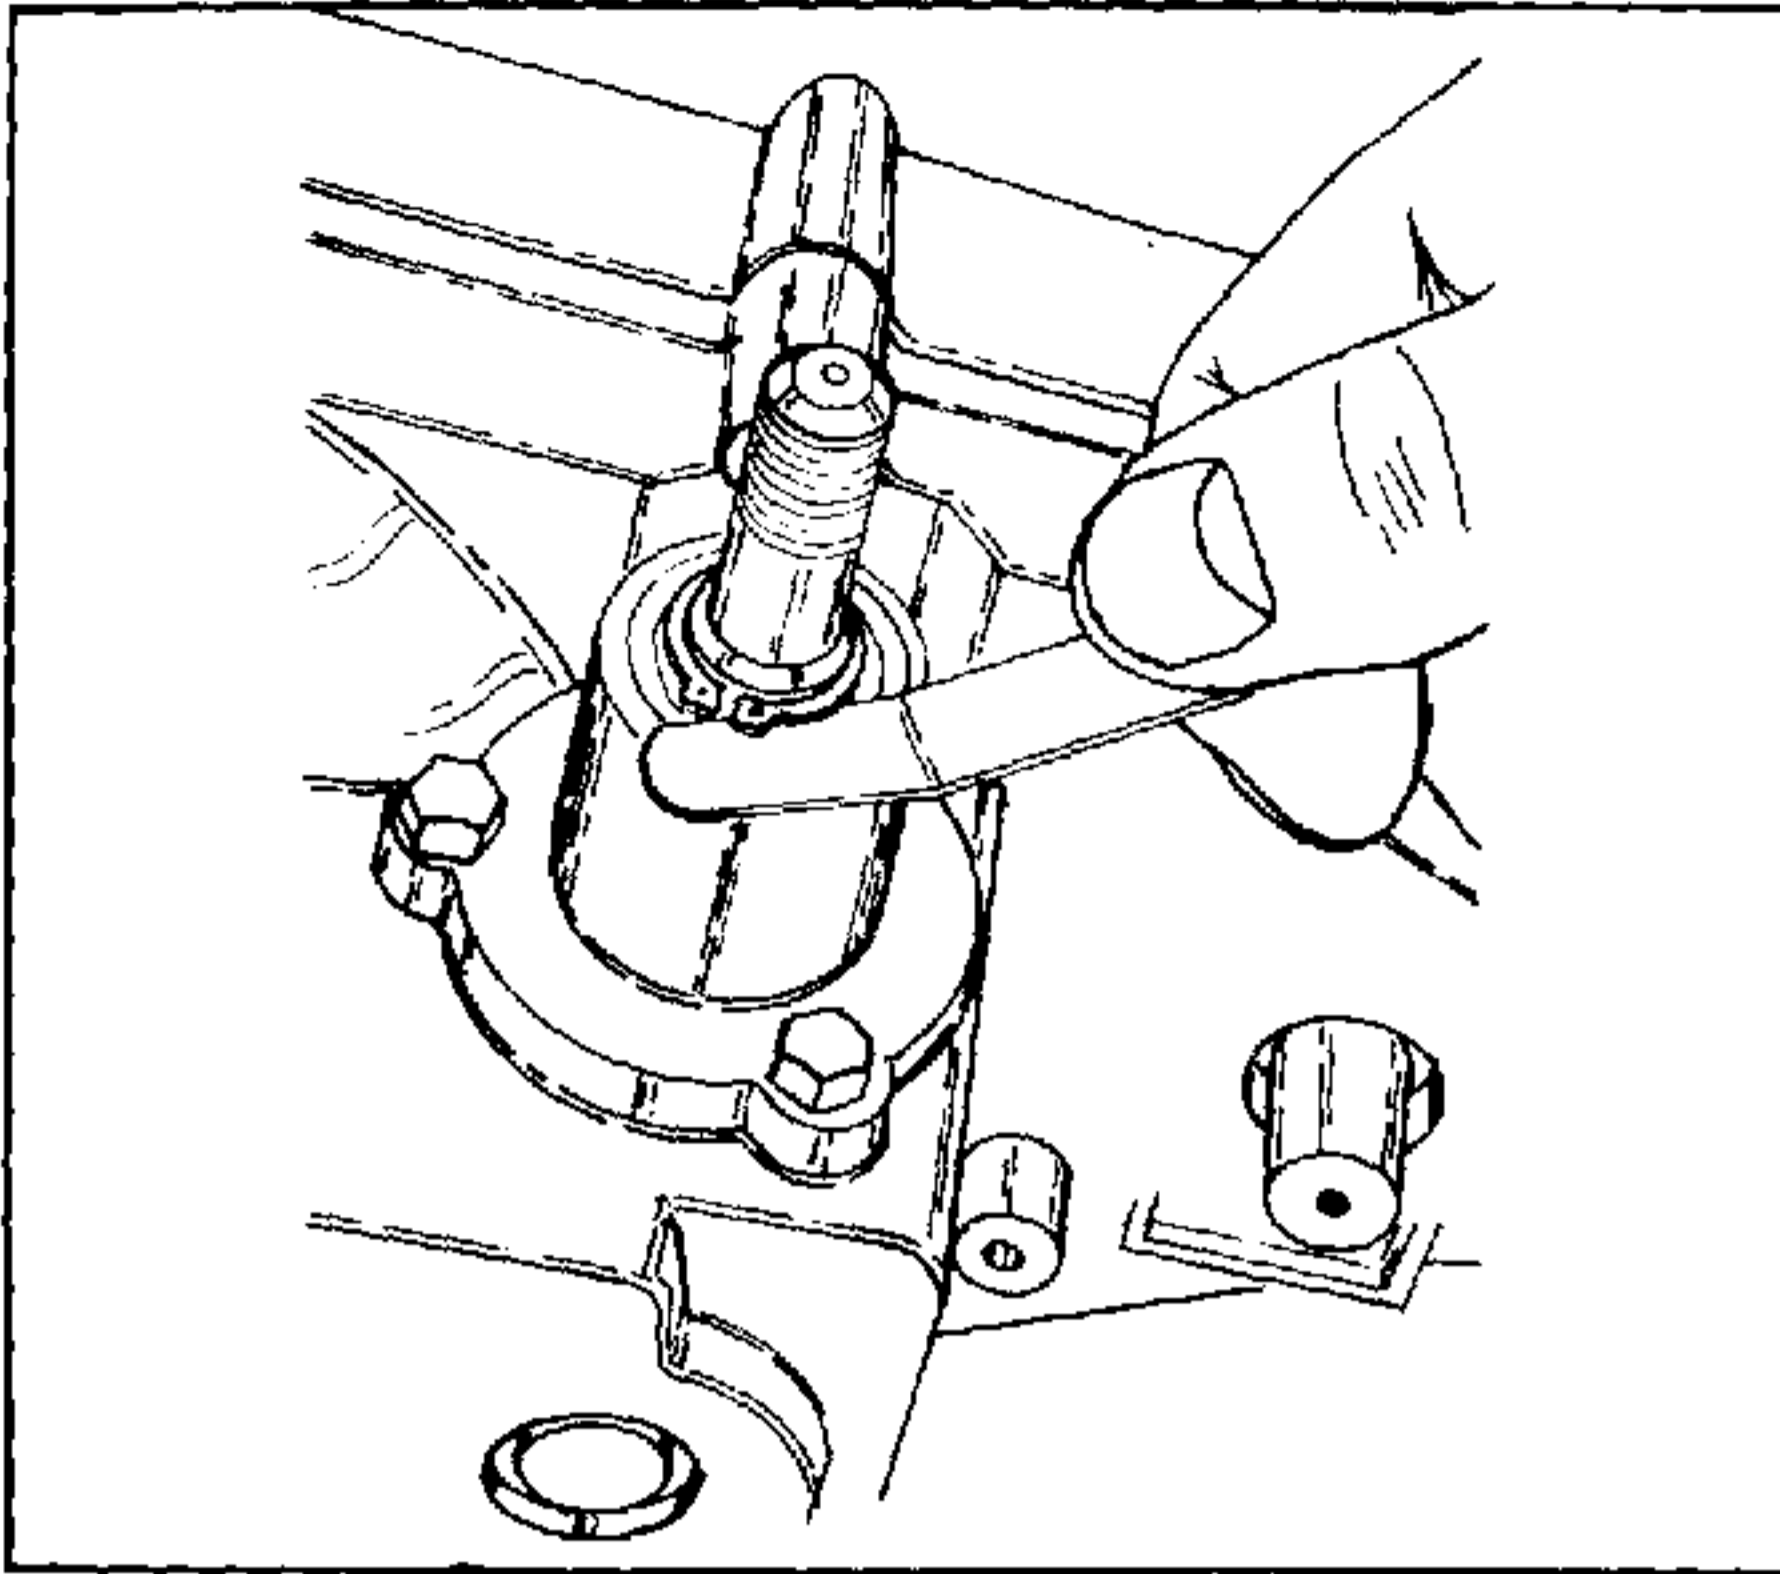

FIGURE 5.
- 3.50 The washers under the retaining ring are factory selected. If any component has been replaced a new washer or washers must be selected. Check with feeler gauge for a maximum .010 end play. Figure 5.